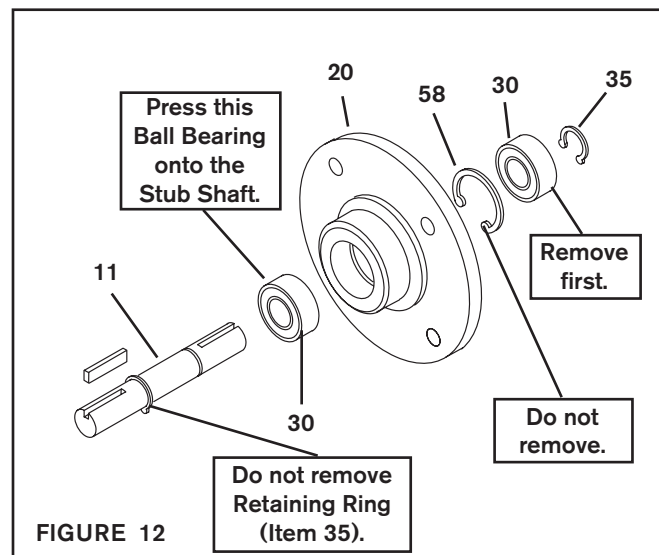

FIGURE 12
1. Remove the Retaining Ring (Item 35) from the output end of the Input Unit (See Figure 12).
2. Press the Stub Shaft (Item 11) out of the Bearing Flange (Item 20) (See Figure 12).
3. Press the first old Ball Bearing (Item 30) off the Stub Shaft (Item 11) (See Figure 12).
4. Press the first new Ball Bearing (Item 30) onto the Stub Shaft (Item 11) until it is seated against the Retaining Ring (Item 35) (See Figure 12).
5. Press the second old Ball Bearing (Item 30) out of the Bearing Flange (Item 20) (See Figure 12).
6. Clean the bearing bore of the Bearing Flange (Item 20) with fresh safety solvent, making sure all old Loctite® residue is removed (See Figure 12).
7. Apply an adequate amount of Loctite® 680 to evenly coat the outer race of the first new Ball Bearing (Item 30) on the Stub Shaft (Item 11) and press the first new Ball Bearing and Stub Shaft into the Bearing Flange (Item 20) until the Ball Bearing is seated against the Retaining Ring (Item 58) (See Figure 12).
8. Apply an adequate amount of Loctite® 680 to evenly coat the outer race of the second new Ball Bearing (Item 30) and press the second new Ball Bearing onto the Stub Shaft (Item 11) and into the Bearing Flange (Item 20) until the Ball Bearing is seated against the Retaining Ring (Item 58) (See Figure 12).
9. Reinstall the Retaining Ring (Item 35) (See Figure 12).